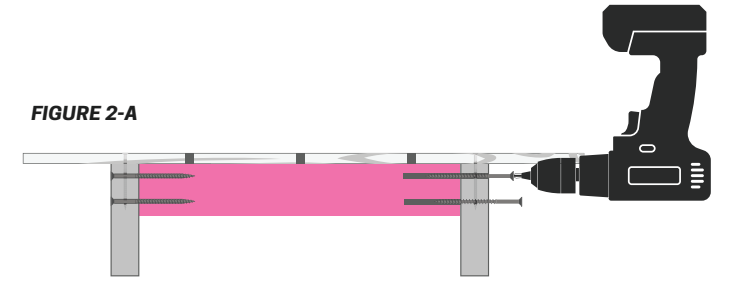

FIGURE 3
4. Now that the brace block is secure, move your attention to the four holes drilled for the Deck Plate mounting. Using the same drill bit to initially set the pattern placement, drill clean through the brace block (**FIGURE 3**).